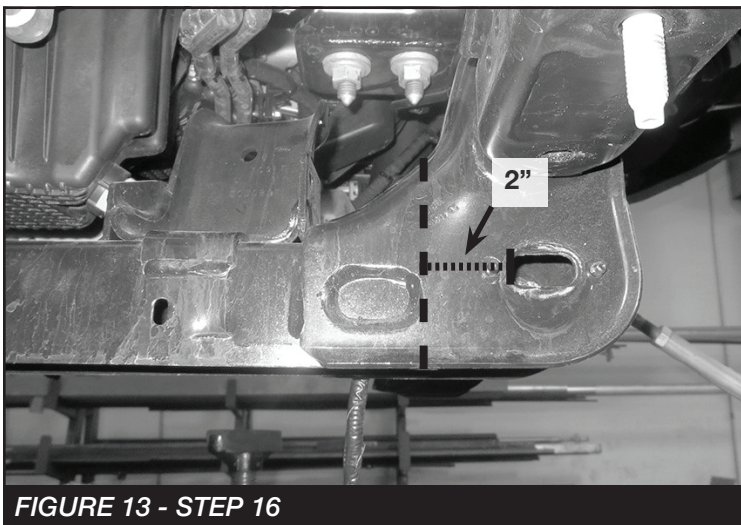

FIGURE 13 - STEP 16
16. On the passenger rear side. From the control arm mounting hole, measure 2" inward and mark a vertical line. **SEE FIGURE 13**